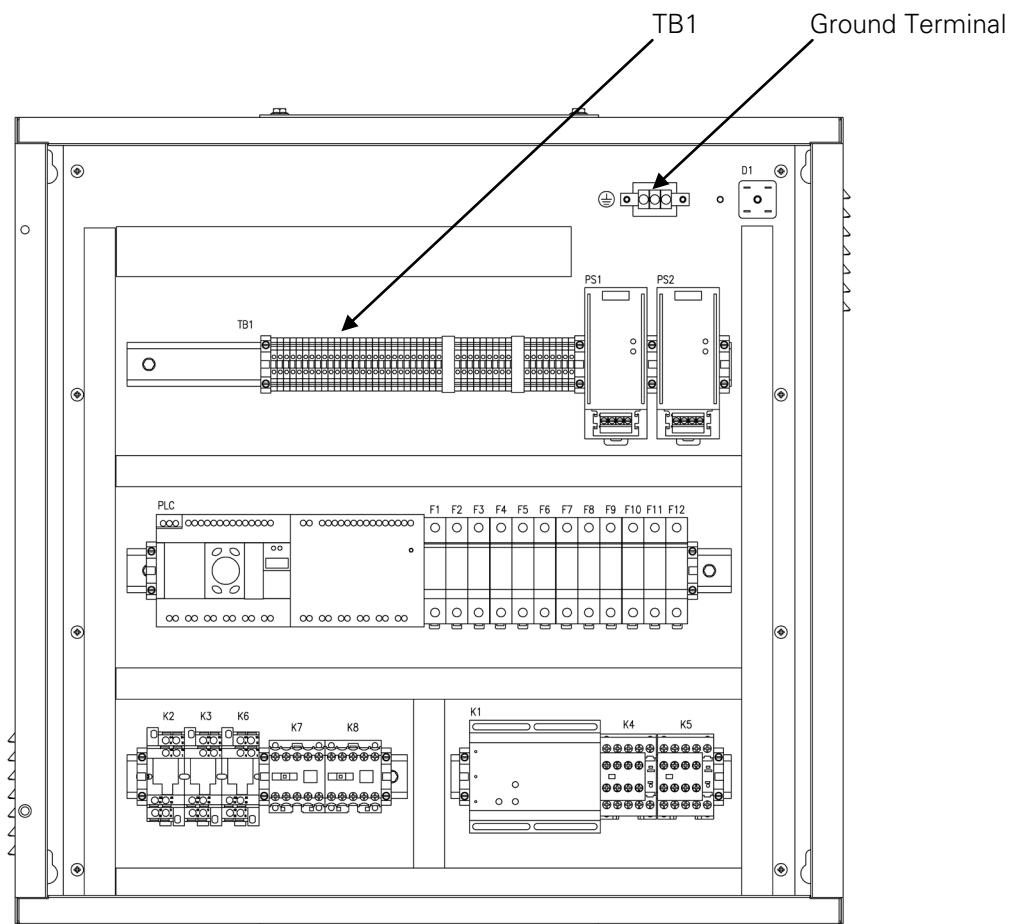
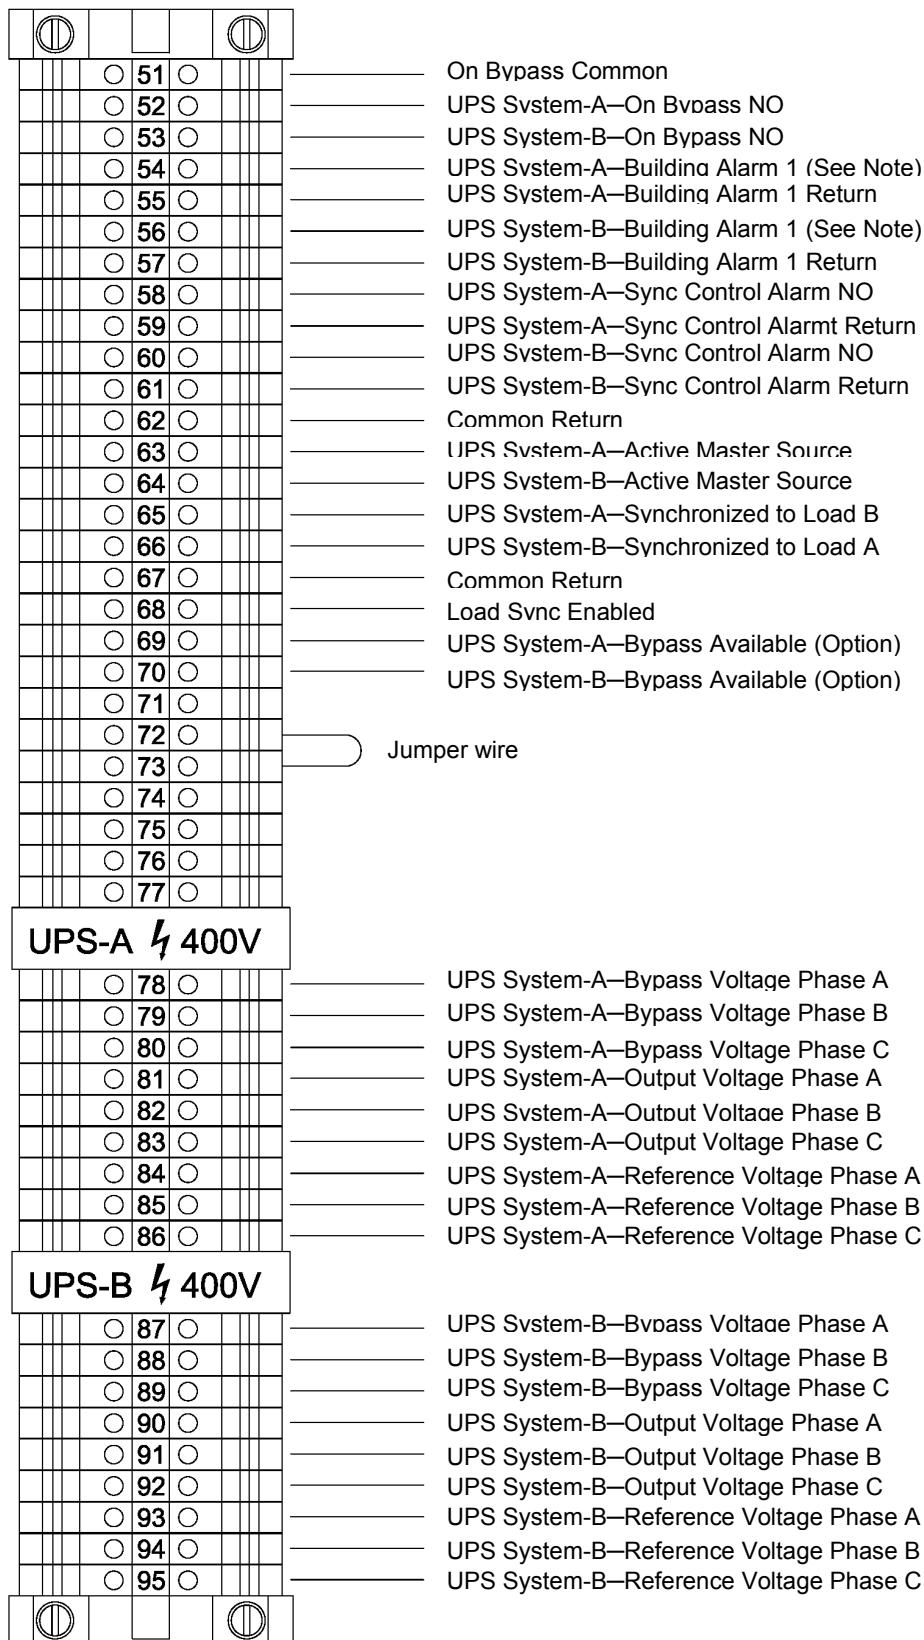
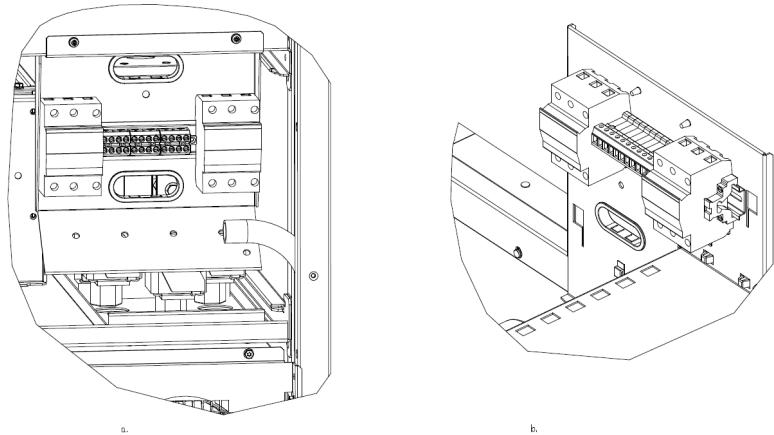
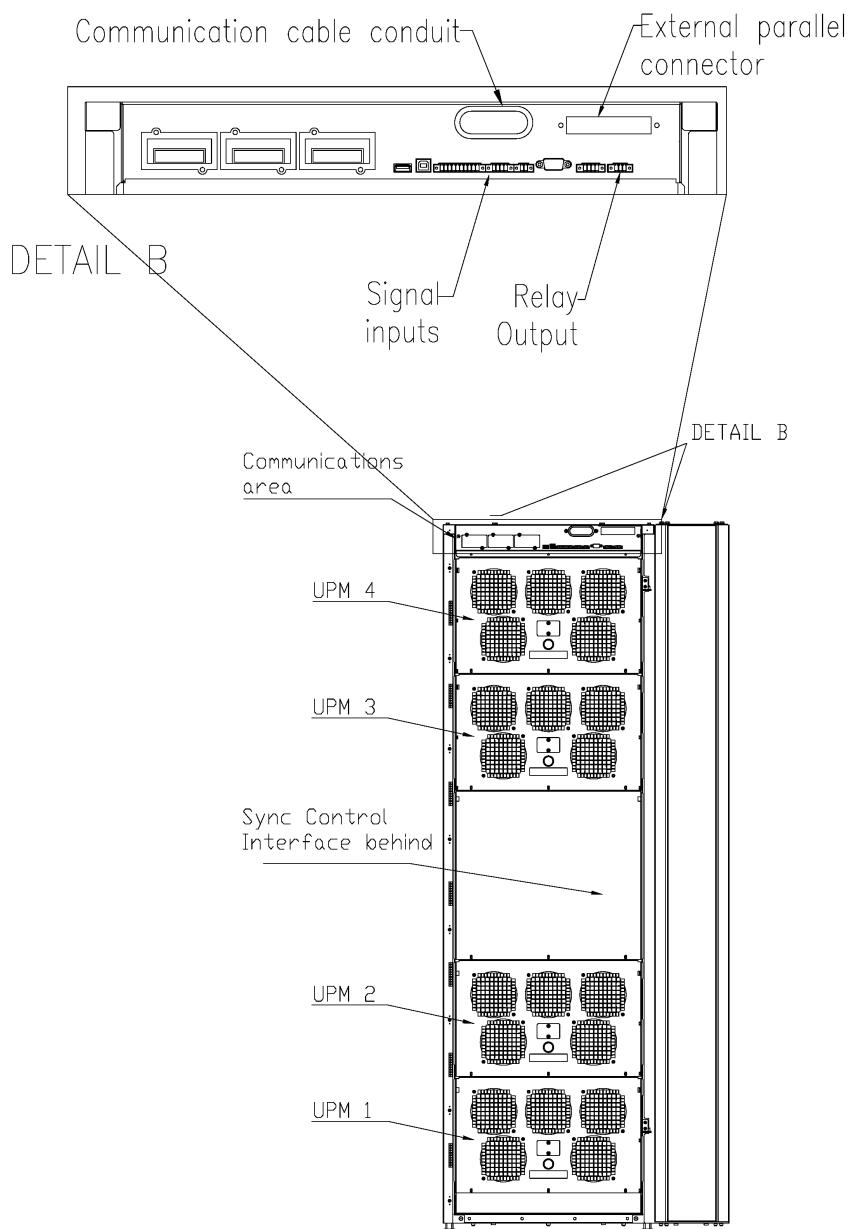

Figure 3-6 Eaton Sync Control Typical Control Wiring Termination Locations
Figure 3-7 Eaton Sync Control TB1 Terminal Block Detail when Used with 93PM
Figure 3-8 Eaton 93PM UPS Sync Control Interface of a. the 100 kW to 200 kW Frame and b. 50 kW Frame.
Figure 3-9 Eaton 93PM UPS (160–200 kW) Interface Locations for Eaton Sync Control
9. Complete all control wiring interconnections using Table 3-4 on page 19 or Table 3-5 on page 20 for wiring requirements. Figure 3-6 on page 21 shows the Eaton Sync Control TB1 terminal block and ground terminal locations. Figure 3-7 on page 22 shows the TB1 terminal block wiring detail. Figure 3-8 on page 23 shows the sync control interface of the 93PM. Figure 3-9 on page 23 shows the typical locations of the UPS Inputs, Outputs and X11 terminal blocks. Figure 3-10 on page 24 shows the X11 detail. Refer to the applicable Eaton 93PM UPS Installation and Operation Manual for UPS cabinet terminal locations and assignments, termination requirements, cable landing locations, and terminal access instructions.
10. Verify the jumper is installed between Eaton Sync Control terminal TB1-72 and TB1-73 (see Figure 3-7 on page 22).
11. If applicable, complete all customer remote monitoring system wiring interconnections using Table 3-6 on page 21 for wiring requirements. Figure 3-7 on page 22 shows the TB1 terminal block wiring detail.